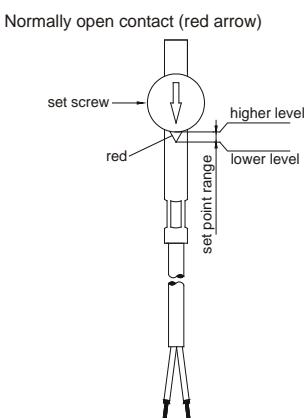
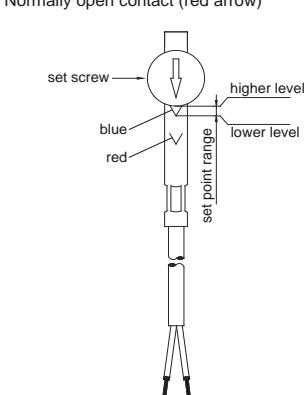

Fig. 17
Fig. 18
- ↳ Move the switching unit until the red arrow for the desired normally open contact (→ Fig. 17) or the blue arrow for the normally closed contact (→ Fig. 18) is visible at the entry of the switching unit guide.